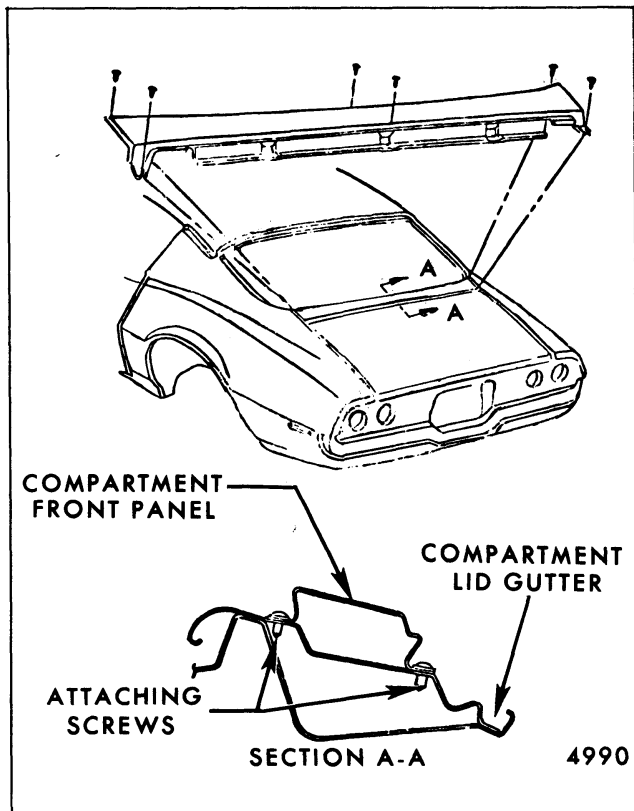
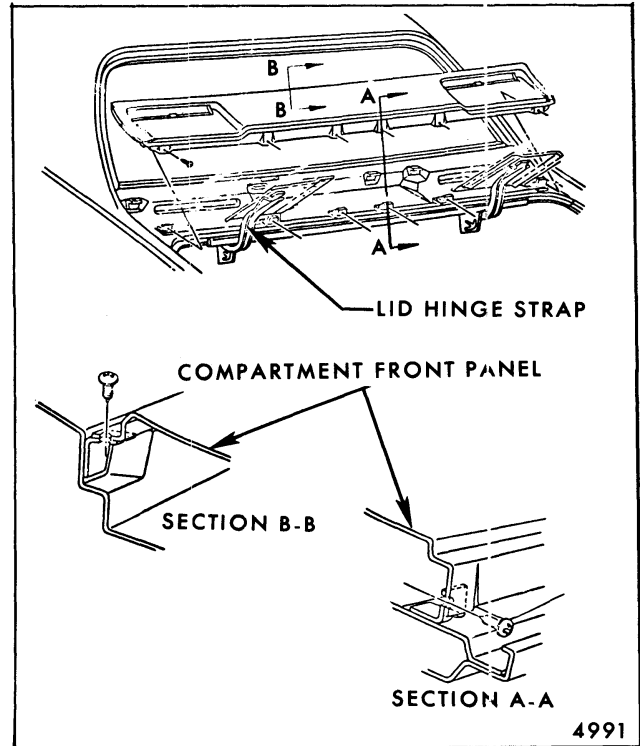

Fig. 7-32-Rear Compartment Front Panel - "F" Styles
Fig. 7-33-Rear Compartment Front Panel - "E" Oldsmobile Style
1. With rear compartment lid raised, remove screws from lower edge of panel as shown in Figure 7-32 - "F" styles and Figure 7-33 - Oldsmobile "E" styles.